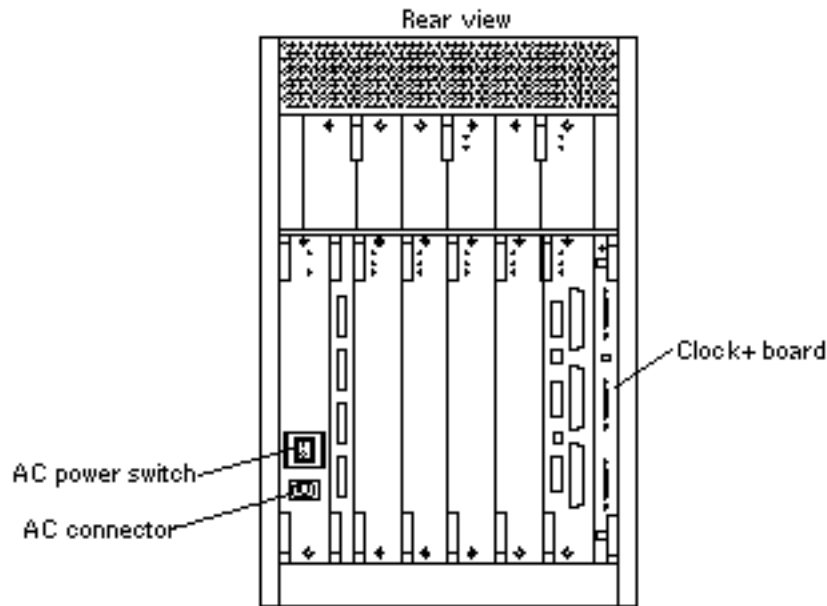

Figure 3-2 AC Power and Clock+ Board
The AC power sequencer is at the rear of the enclosure. See Figure 3-2.
4. **Turn the AC power sequencer power switch to On. See Figure 3-2.**
2. System AC power switch (see Figure 3-2)